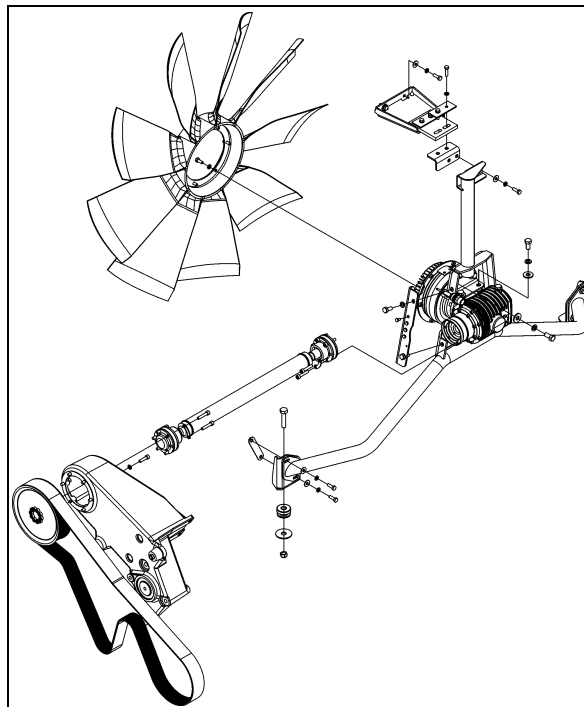

FIGURE 19: COOLING FAN DRIVE MECHANISM
2. Dismount the drive pulley. Gain access to the 6 mounting bolts from behind the pulley, through the opening in the cast aluminum support (Fig. 19).
3. Unscrew and remove the universal joint shaft mounting bolts (6) at the right angle gearbox.